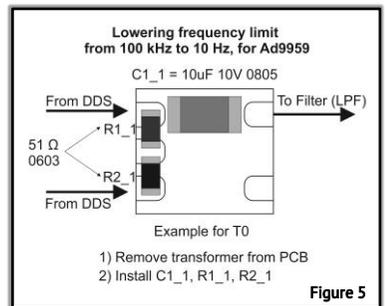

Figure 5
**For experienced users only.** All actions are performed at your own risk. Remove transformer **T1** and replace it with one capacitor and two resistors (Figure 5), and in the file "DDS-AD9959-Arduino-Shield.ino" set the desired value in Hertz in the line `#define LOW_FREQ_LIMIT 100000`. Installing a capacitor **C1\_1** with a value of **10 uF** will reduce the lower frequency limit to **10 Hz**. If you want to reduce the limit even more, then the value of the capacitor should be increased. These modifications will lead to a degradation in the performance of the DDS: the output level will decrease by **3 dBm**, and the level of harmonics will increase as the current mirror and a balanced transformer not be used.